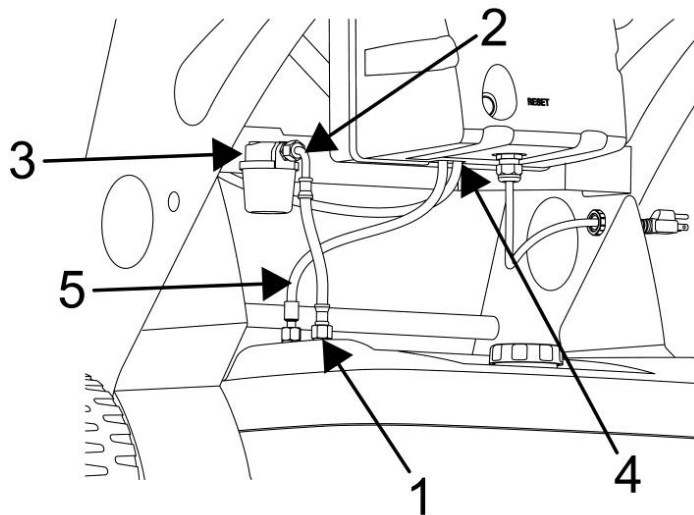

Figure 26 - Potential leakage points in the suction circuit.
1. Check the entire suction circuit and verify that there are no leaks (Fig. 26). Each leak in this tract of the circuit causes air to enter the suction circuit which works at a pressure that is less than the atmospheric. If this takes place, there may be pressure problems in the pump.